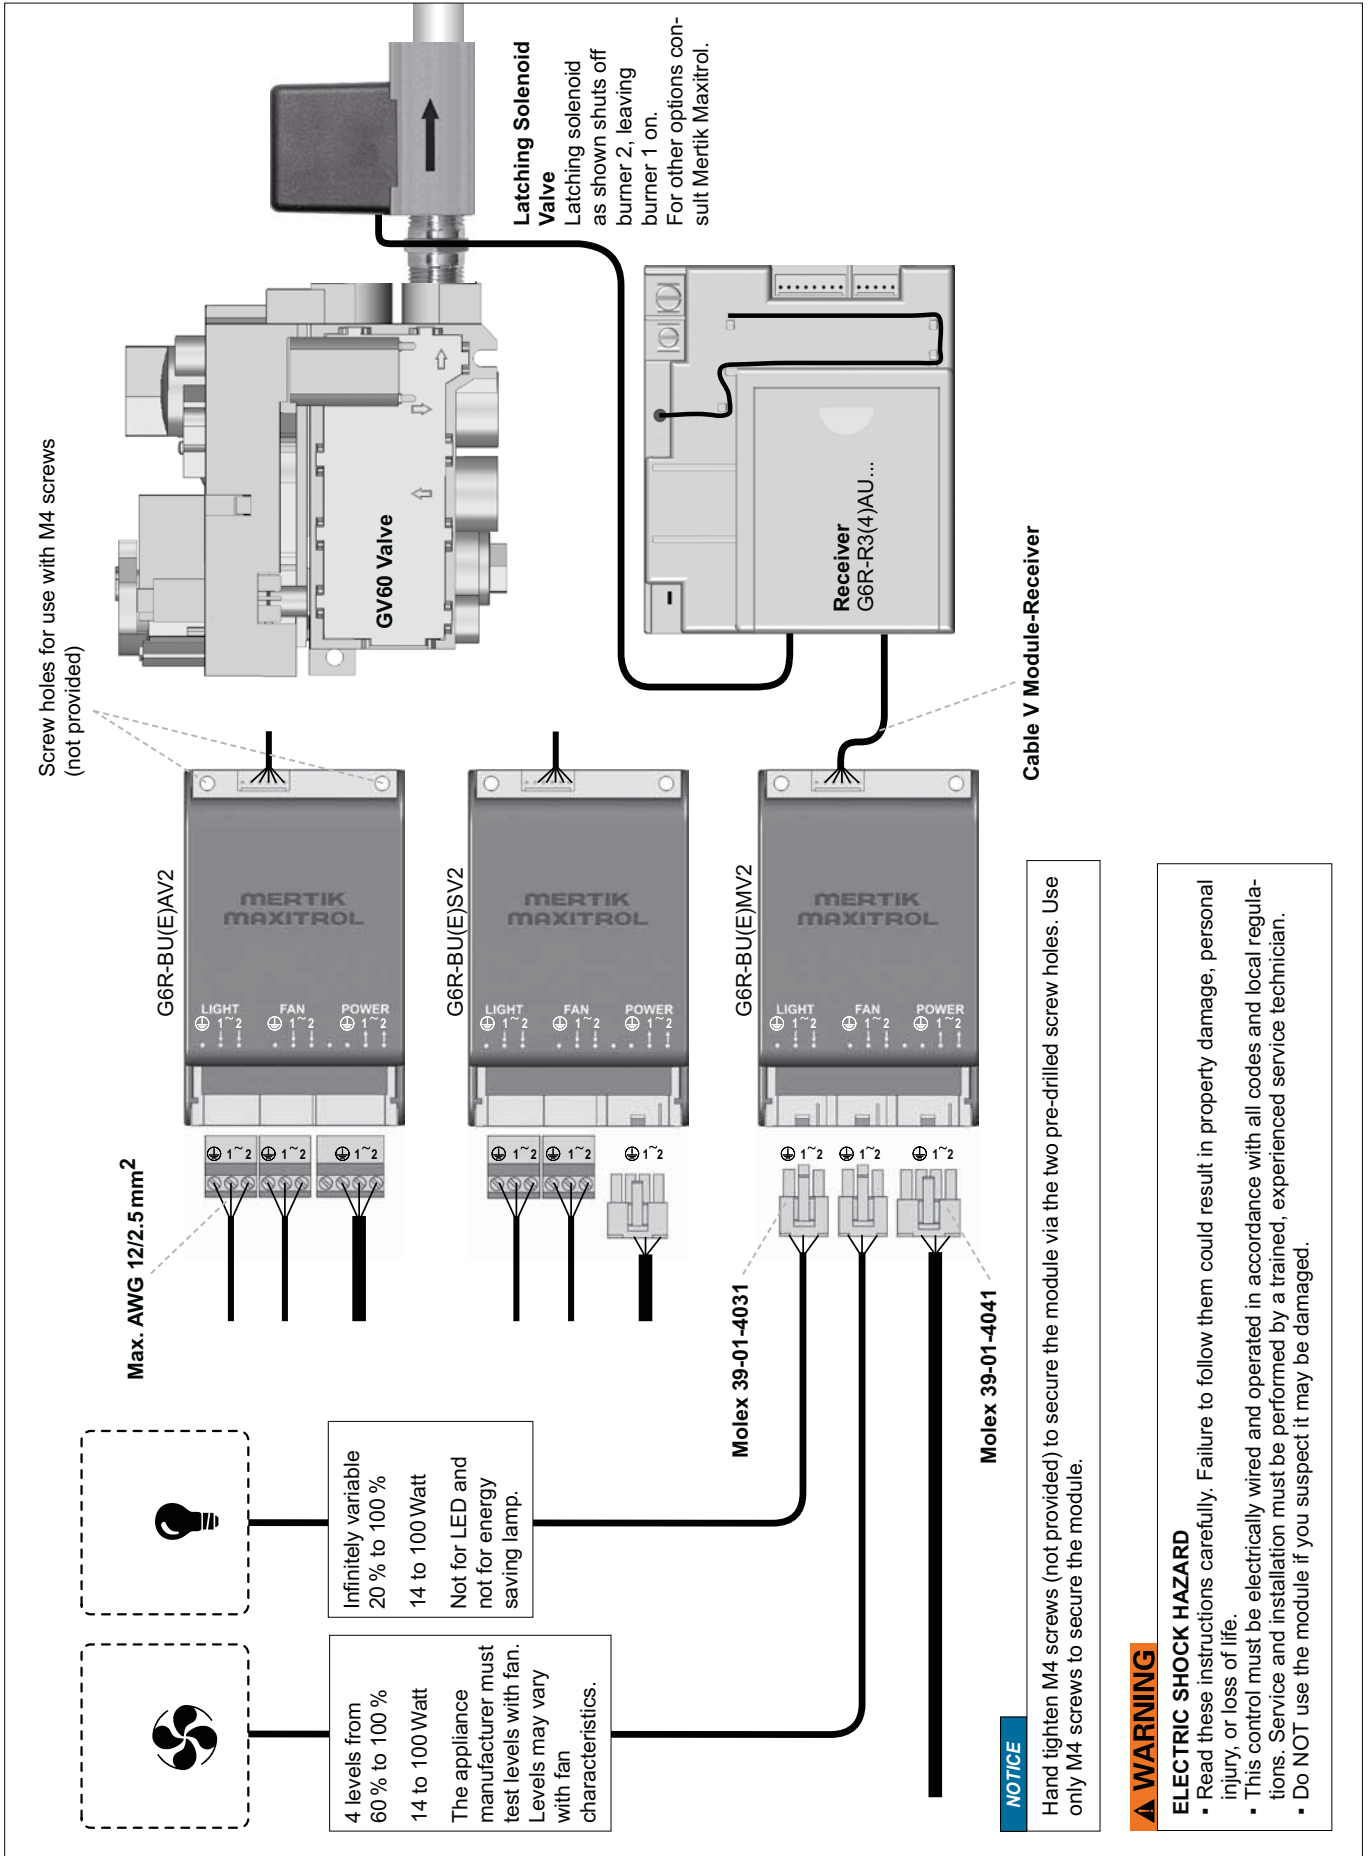

Figure 11
- Use Power cord, Fan and Light with Molex connector according to wiring diagram (figure 11, page 9) or connect wires with core cable ends to the pluggable screw terminals.
- V Module with screw terminals: max. AWG 12/2,5 mm² (figure 11, page 9).